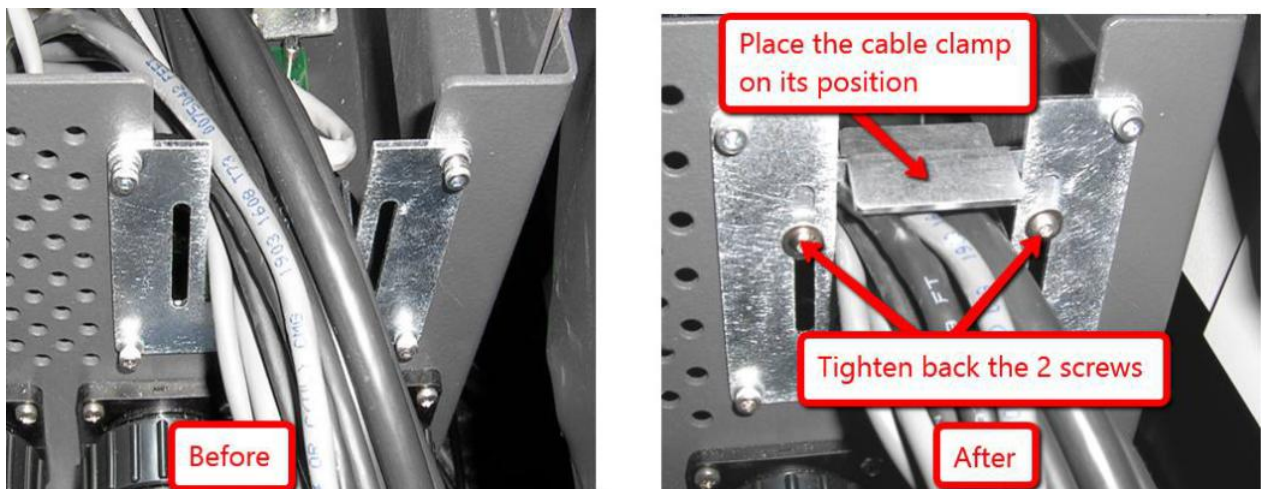

Figure 22 Cable Clamp
16. Place the cable clamp on its position and tighten back the screw as shown in the Figure 22